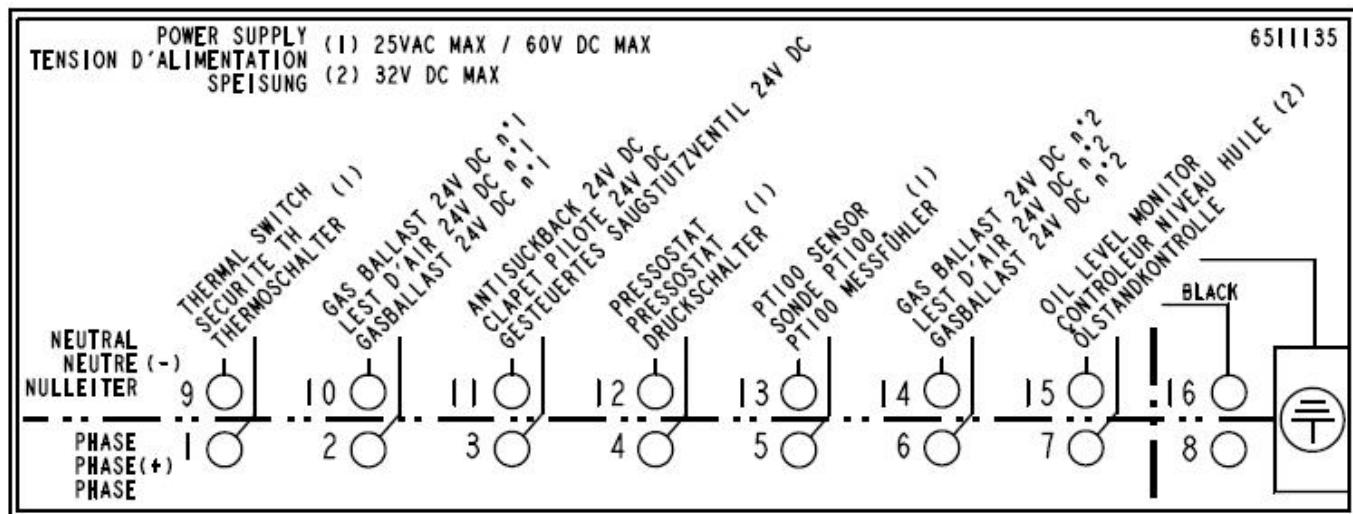

Fig 5
Connection has to be made in the junction box (see Fig 5).
To be serial wired with the coil of motor's contactor. Use an auxiliairy relay. The pump is switched off once a certain oil temperature (115 °C/239 °F) is exceeded. It is also possible to connect an alarm system. (see Fig 5).
To be wired in connection box (see fig. 5).
To be serial wired with the coil of motor's contactor (the pump stops in case of missing oil). See Fig 5.
- Electromagnetic gas ballast valve 24 V DC. Connection has to be made on junction box (see Fig 5).